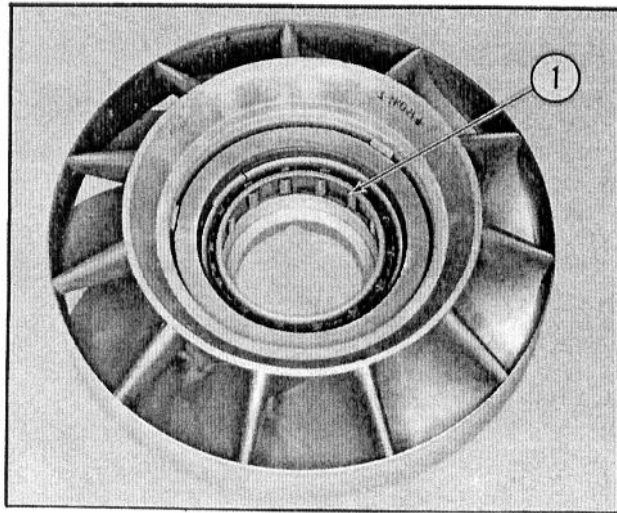

Fig. 13 — Installing the Sprag and Outer Race
7. Place the outer race, with sprag installed, into the stator. See Fig. 13.